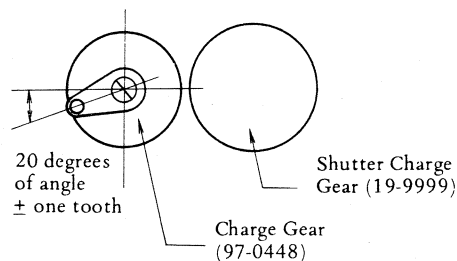

Fig. 8
- 2) Set Charge Gear (97-0448) at the position 20 degrees \pm one tooth in Fig. 8.